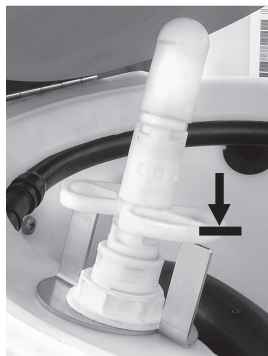

Fig 29
- 1 The 'wings' on the drum rinse nozzle must be aligned so the Safety Device will prevent them being pushed down, see Fig 29.
WARNING! Residual fluid may be released if drum nozzle is pressed (Fig 31) **even well after previous use.** After cleaning, return the drum rinse nozzle to Safety position (Fig 29).